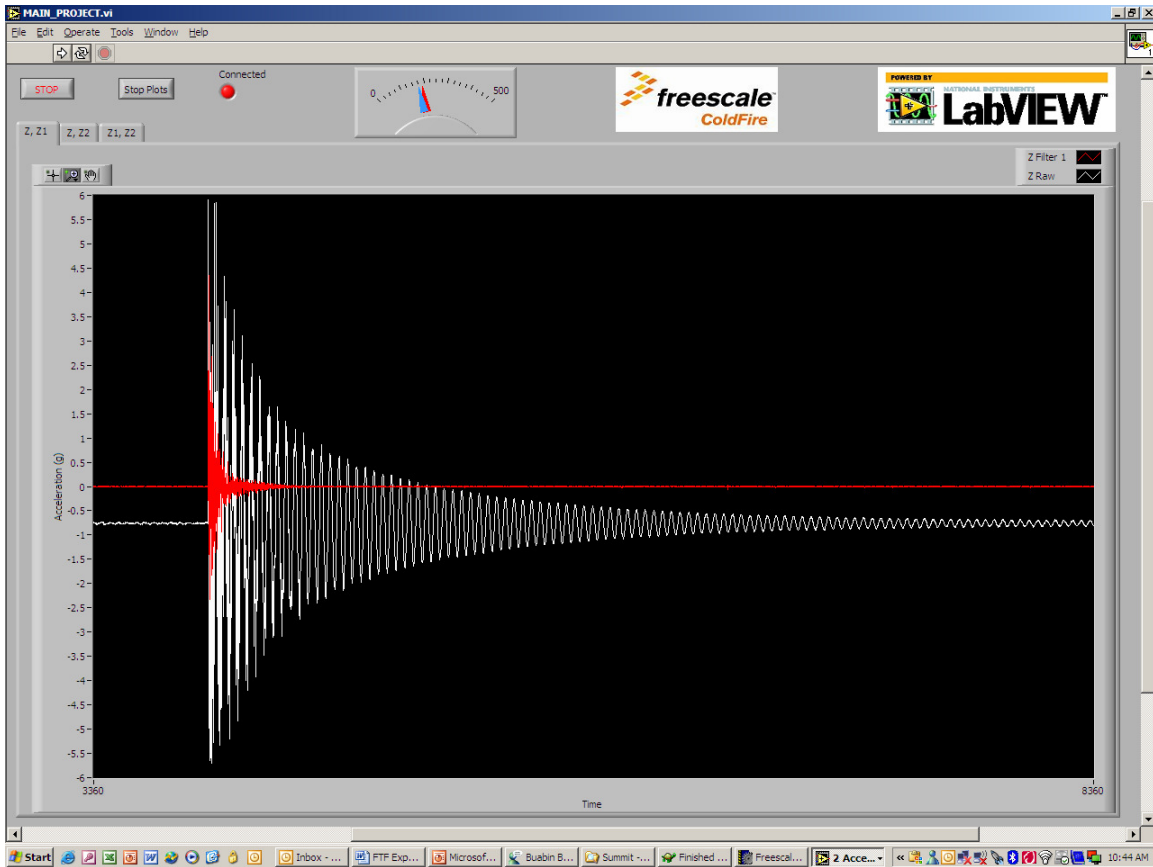

Figure 1a: Original and high pass filtered signals
- d. The tab labeled “Z, Z2” displays the raw signal and the low pass filtered signal (Figure 1a), with frequency content less than 120 Hz.
- i. The effect of time delay on the filtered signals is evident in Figures 1a and 1b.